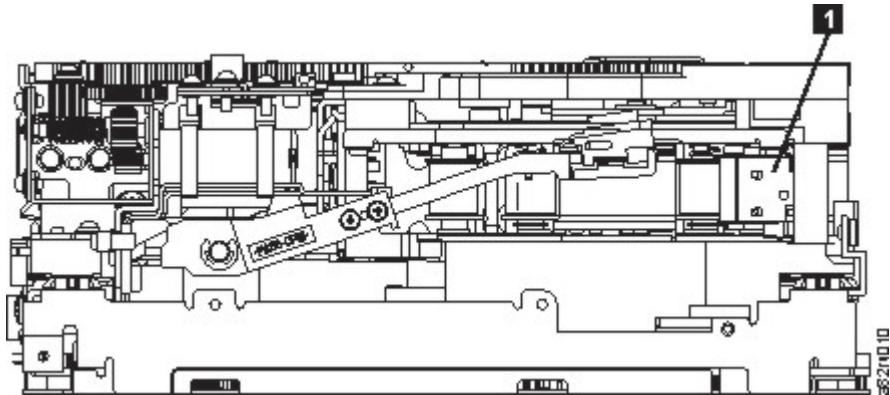

Figure 124. Leader Block Assembly (LBA)
10. Rotate the threader motor worm gear (4 in Figure 123 on page 248) to turn the threader mechanism gear (6 in Figure 123 on page 248) counterclockwise. This action moves the LBA out of the cartridge and past the read/write head. Stop this rotation when the LBA is near the tape guide roller nearest the rear of the drive that is shown as 1 Figure 124 on page 249.